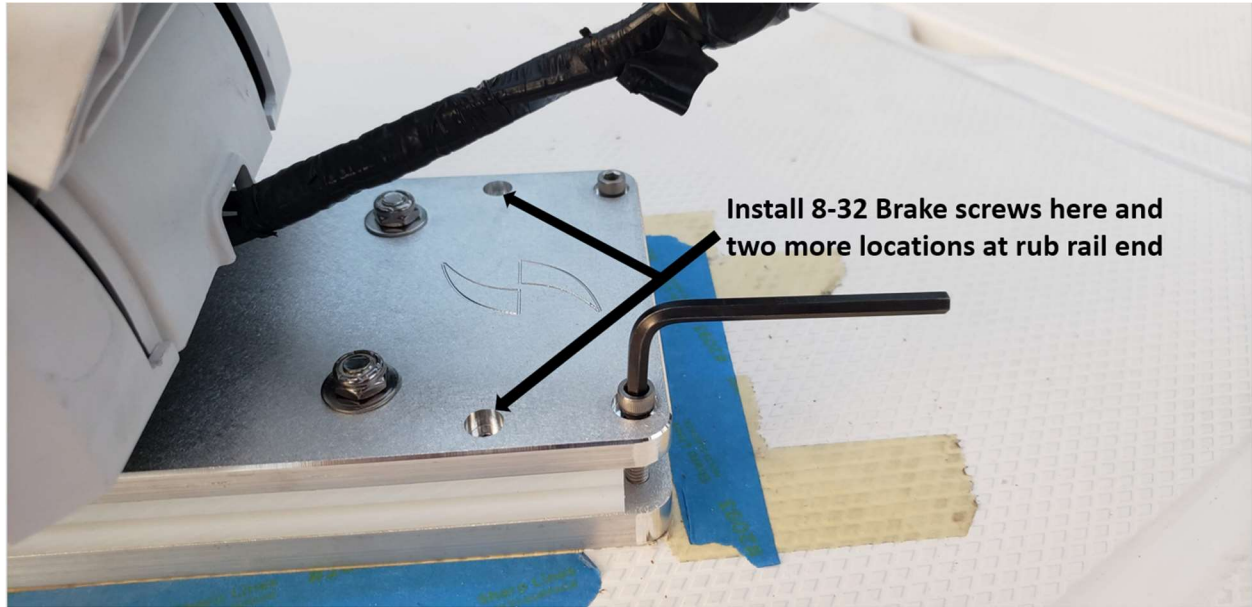

Figure 15
- Figure 15 shows the two inboard brake screw locations.